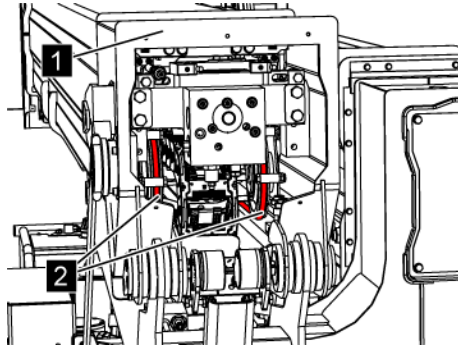

Fig. 226: Upper boom profile
5. ➤ Remove the maintenance flap from the upper boom profile (Fig. 226/1).
6. ➤ Whilst the upper boom is extending, spray KL300 spray grease (article no. 3917/0036) onto the ropes (Fig. 226/2).